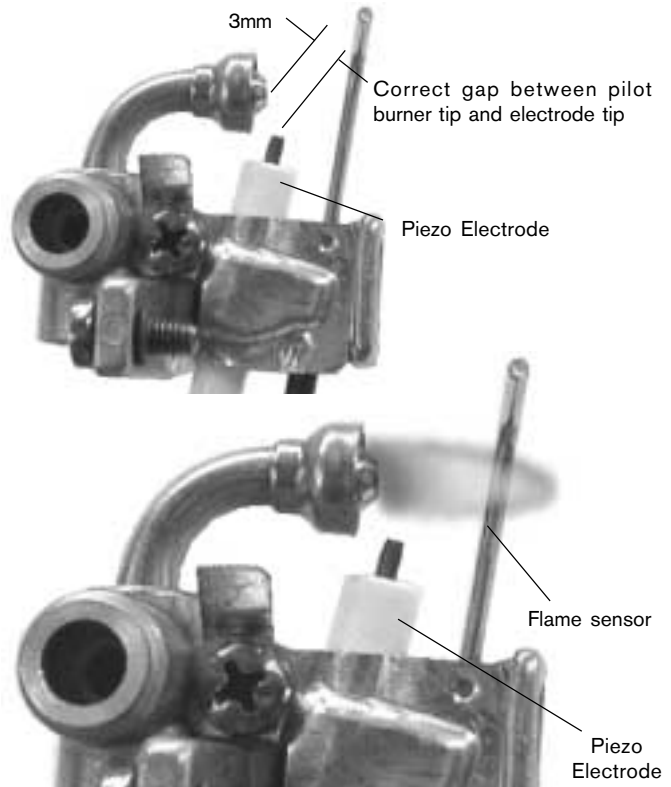

Fig. 12 - Characteristic Pilot Flame
**Pilot Flame:** The pilot flame should burn with a clean, sharp, blue flame and should resemble the diagram in Fig. 12. If the flame is soft and yellow, the pilot burner orifice may need to be cleaned or serviced. The pilot flame should be approximately 2 inches long, extending past the flame sensor. If the flame is too small, it will not reach the flame sensor and the burners will not come on.
1. **Confirm the flame sensor is in its proper position.** see Figure 12.